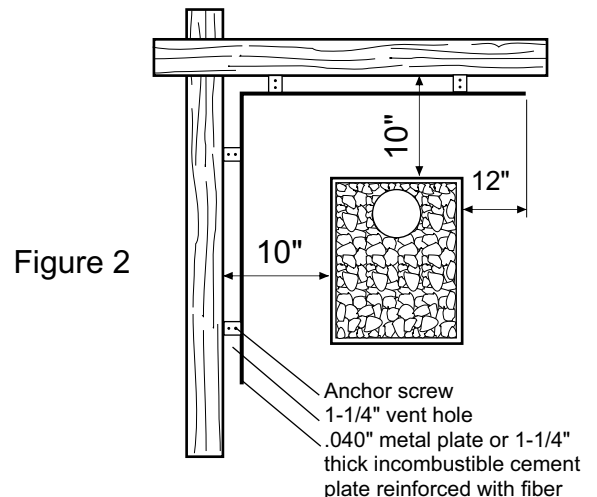

Figure 2
2. However, the safety distance mentioned in item 1 can be decreased to minimum 10" provided a single light protection is used. This kind of single light protection can be constructed either by using a minimum 1/4" thick incombustible cement plate reinforced with fiber, or by fastening an at least 1mm thick metal plate densely enough to the wall. A minimum 1-1/4" vent hole must be left between the protective plate and the wooden surface to be protected. This can be done for example by using pipe bushings as intermediate supports. (Figure 2)